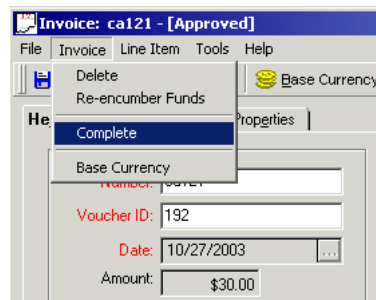

Figure 12-29. Invoice menu
1. From an open approved invoice, select **Complete** from the **Invoice** menu to complete an invoice (see Figure 12-29).